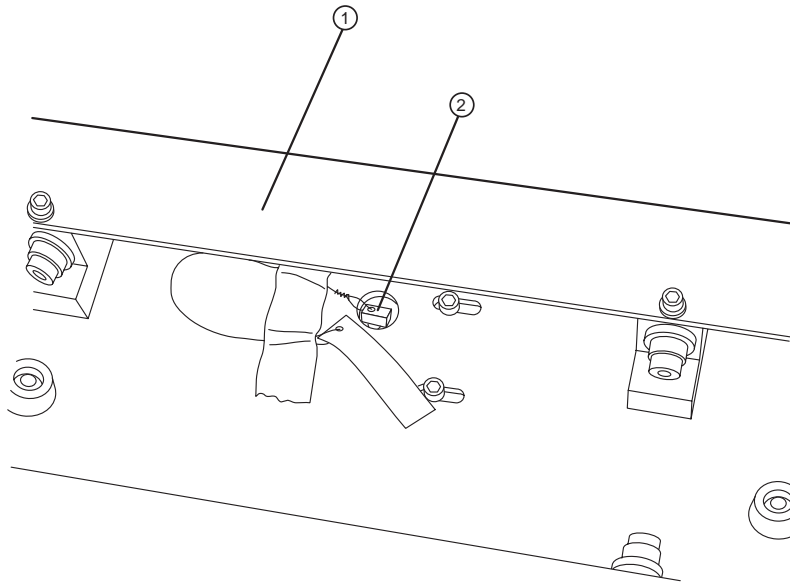

Figure 1-7 The gearbox vent plug.
3. Pull the gearbox vent plug found on the head in the boom travel areas. Refer to Figure 1-7.